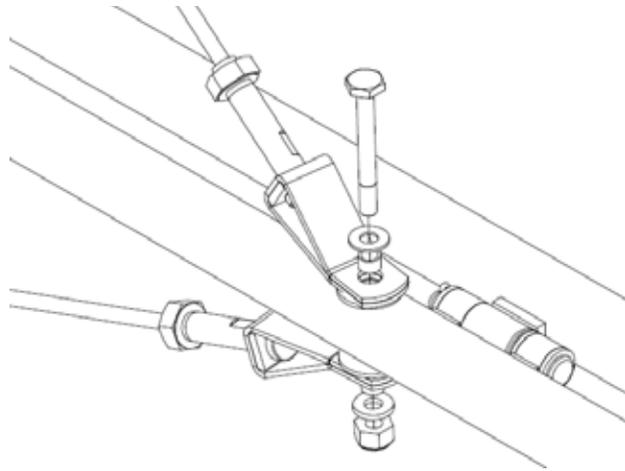

Figure 9 – Horizontal Stabilizer Tail Brace Wire Installation
- (d) Position the long tail wires with the horizontal stringer on the horizontal stabilizer and insert a clevis pin with washer through the elevator. Secure with washer and cotter pin (see Figure 9).